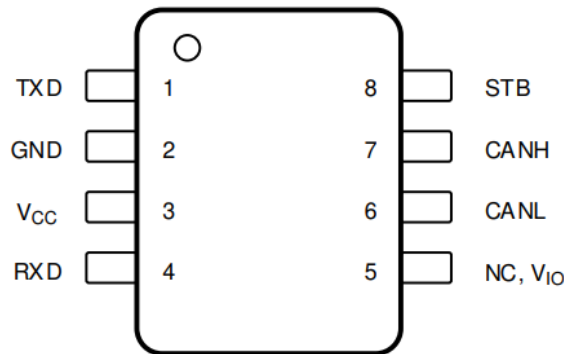
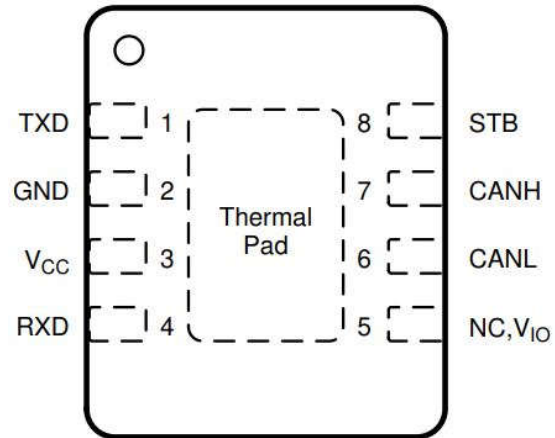
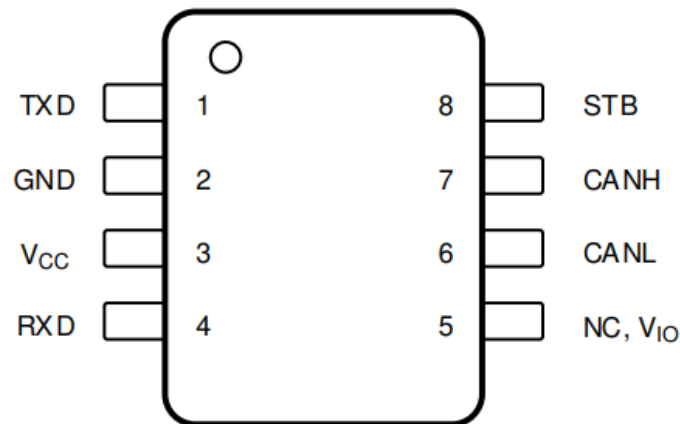

Figure 4-1. SOIC (D) Pin Diagram
Figure 4-2. VSON (DRB) Pin Diagram
Figure 4-3. SOT (DDF) Pin Diagram
Figure 4-1 shows the TCAN844-Q1 and TCAN844V-Q1 (SOIC (D)) pin diagram. Figure 4-2 shows the TCAN844-Q1 and TCAN844V-Q1 (VSON (DRB)) pin diagram. Figure 4-3 shows the TCAN844-Q1 and TCAN844V-Q1 (SOT (DDF)) pin diagram. For a detailed description of the device pins please refer to the *Pin Configuration and Functions* section in the TCAN844-Q1 and TCAN844V-Q1 data sheets.